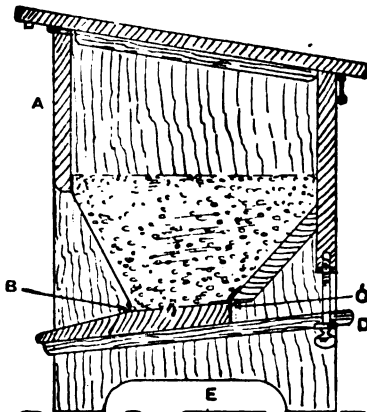

FIG. 1
**Self-feeding Poultry Food Bin.**—Fig. 1 shows a section and Fig. 2 a front view of the bin, which may be made of  $\frac{1}{2}$ -in. pine. The sides are made with the grain of the wood running from top to bottom, a ledge being nailed across the lower and top edges to prevent warping. AA (Fig. 2) show the lower ledges, those at the top being inside. The front (A, Fig. 1) extends from the top to a little less than half the depth, and from this a piece of tin forms the front of the hopper and reaches to the feed-hole B (Fig. 1), which should be of such a height from the ground that the poultry can